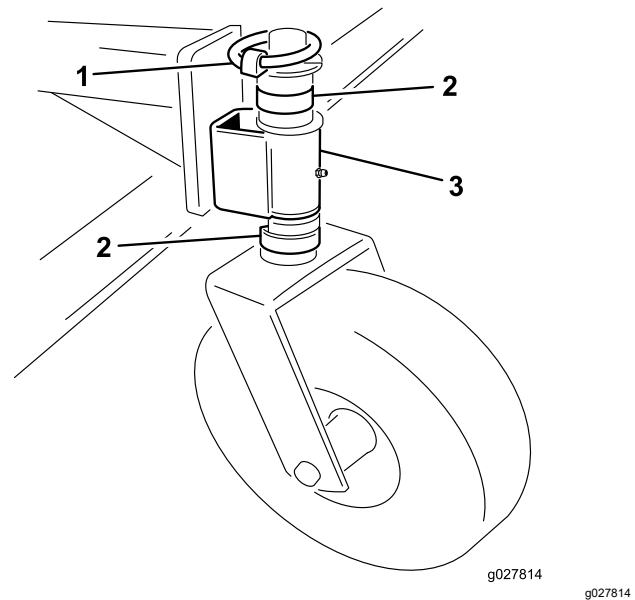

Figure 6
1. Remove the clevis pin from the spindle shaft (Figure 6).